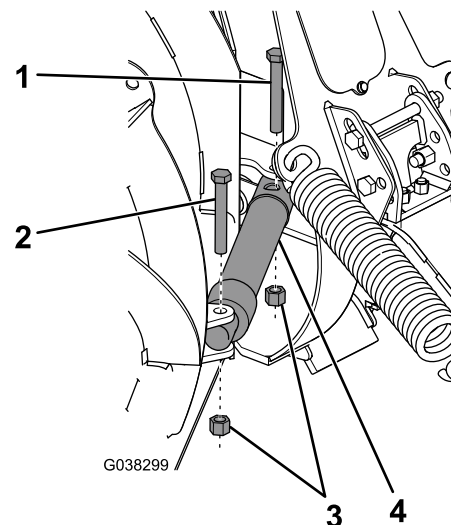

Figure 3
4. Attach the body end of the angle cylinders to the push-frame assembly using 2 hex-head bolts (3-1/2 inches) and top locknuts (Figure 3).
- Attach the rod end of the angle cylinders to the blades using 2 hex-head bolts (3 inches) and 2 top locknuts (Figure 3).